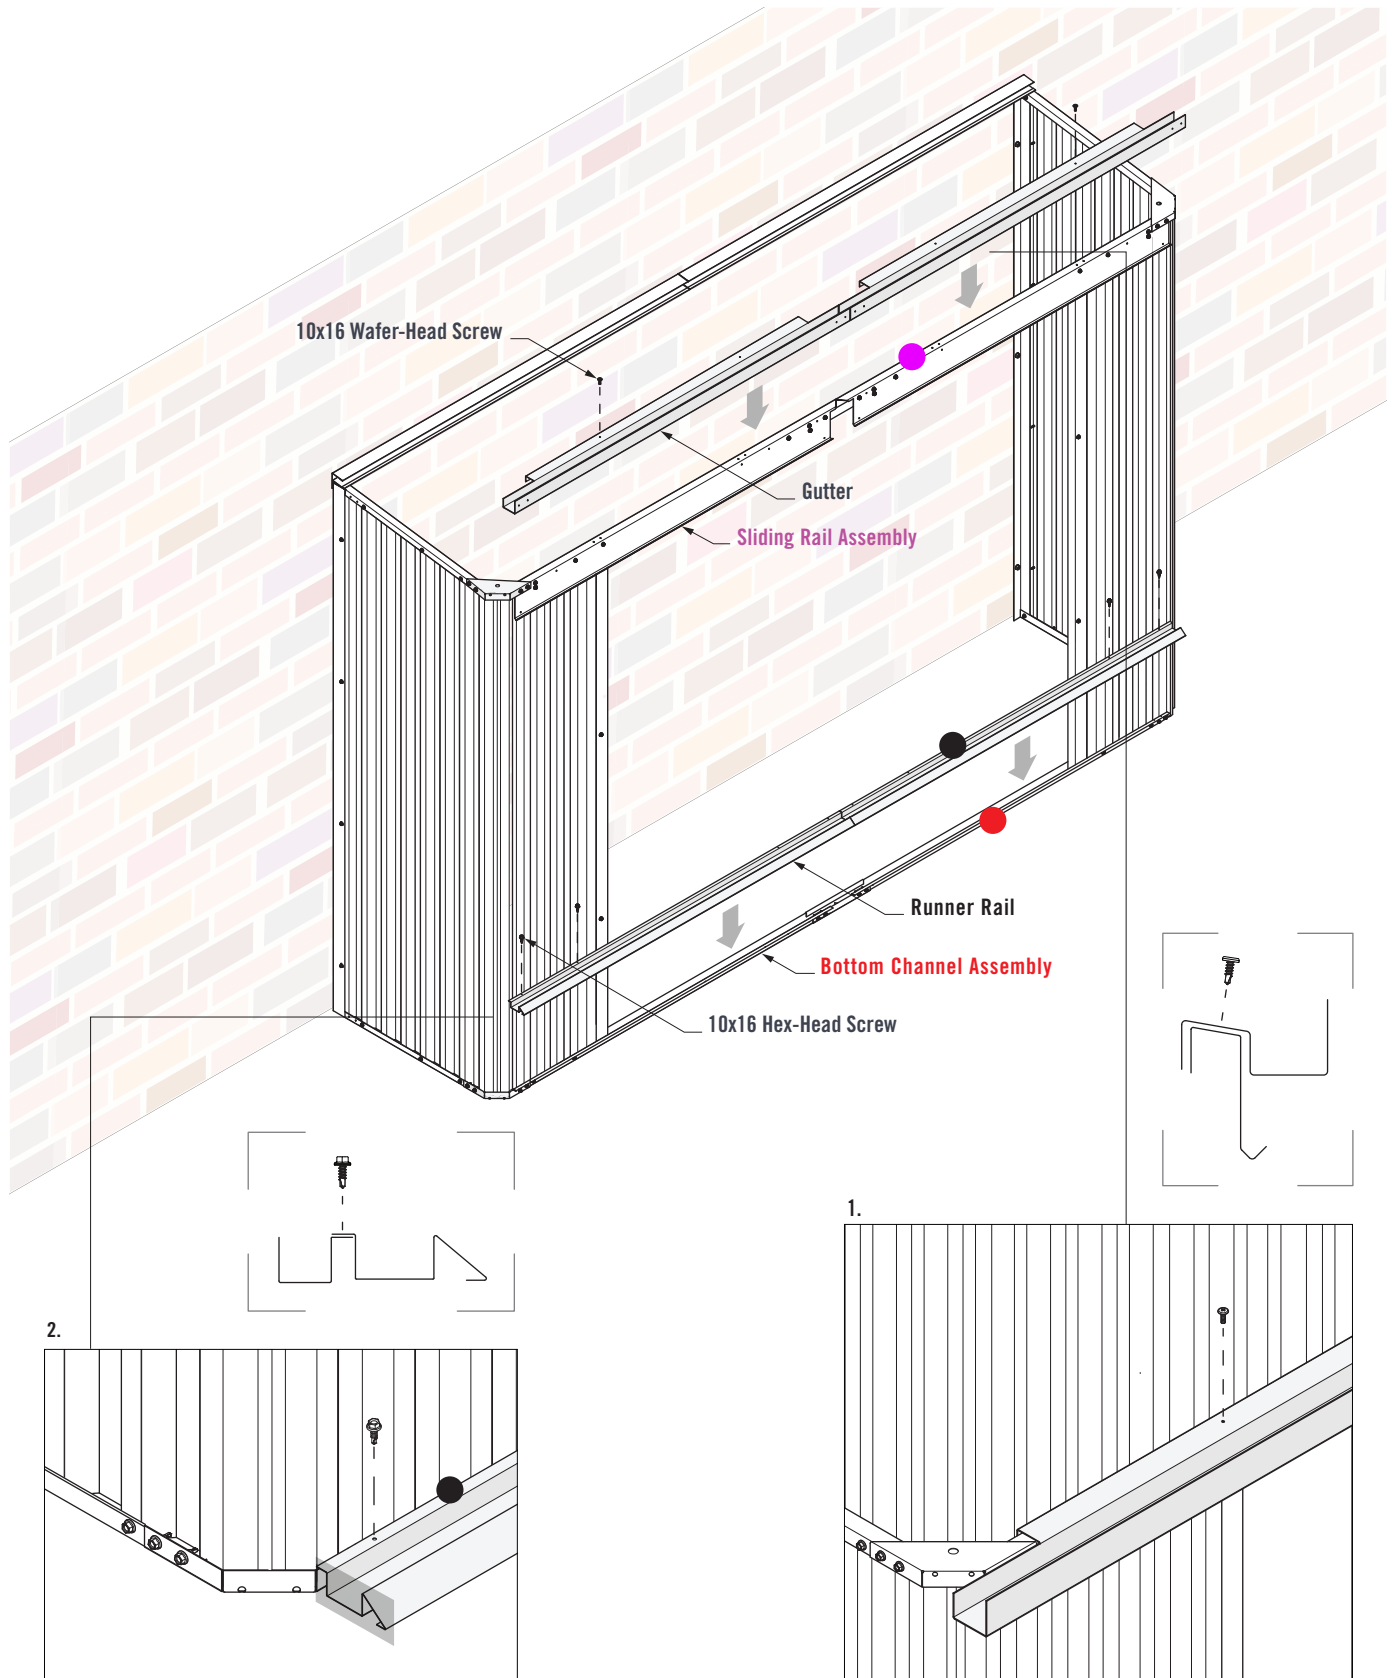

FIGURE 9.3
1. Fit the Gutter over the **Sliding Rail Assembly**. Fasten one 10x16 Wafer-Head Screw through each pilot hole of both Gutters and into the **Sliding Rail Assembly** (Figure 9.3).
2. Fit the Runner Rail over the **Bottom Channel**. Ensure the end of the Runner Rail is in line with the edge of the Corner Bracket. Fasten four 10x16 Hex-Head Screws through pilot holes in the Runner Rails and into the **Bottom Channel Assembly** (Figure 9.3).